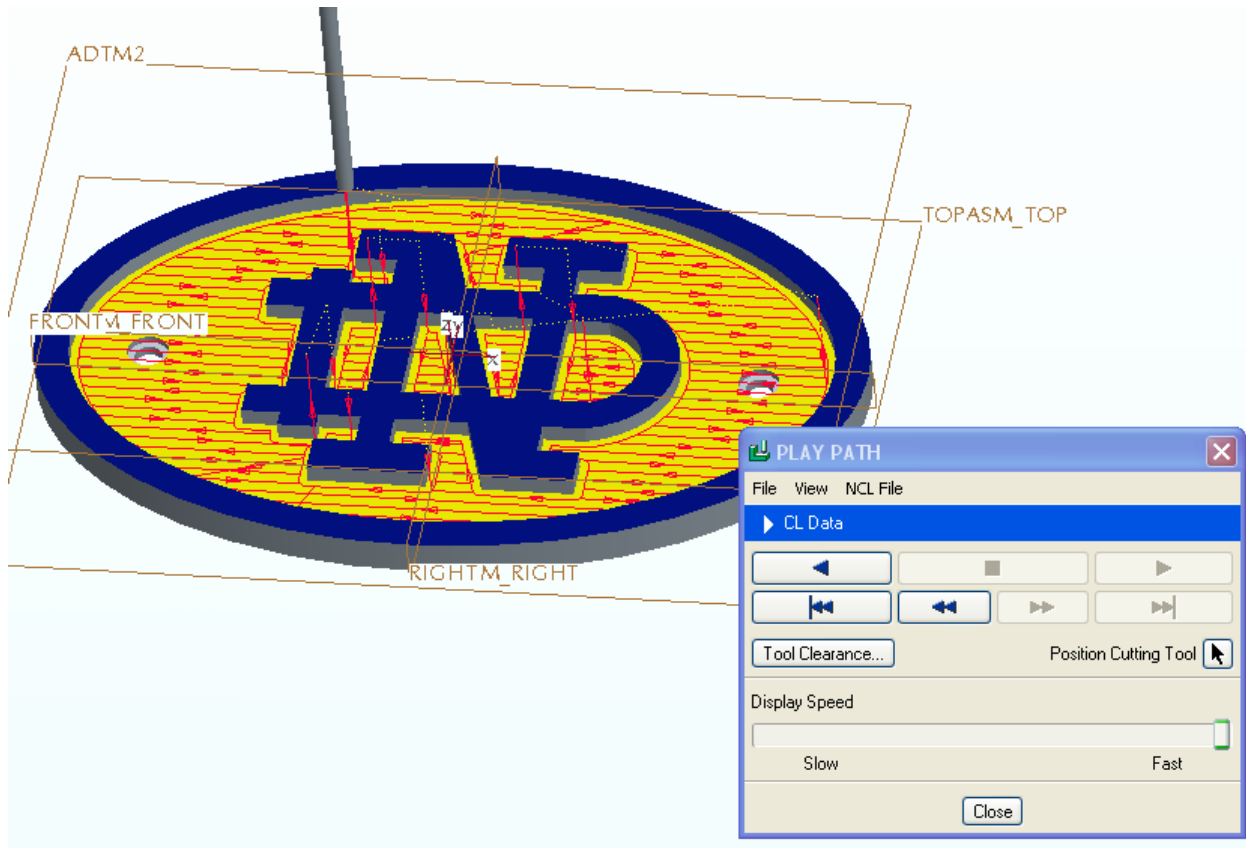

Fig 10: Screen Play of toolpath
- Step 25:** Select **PLAY PATH >> SCREEN PLAY** (Figure 10).